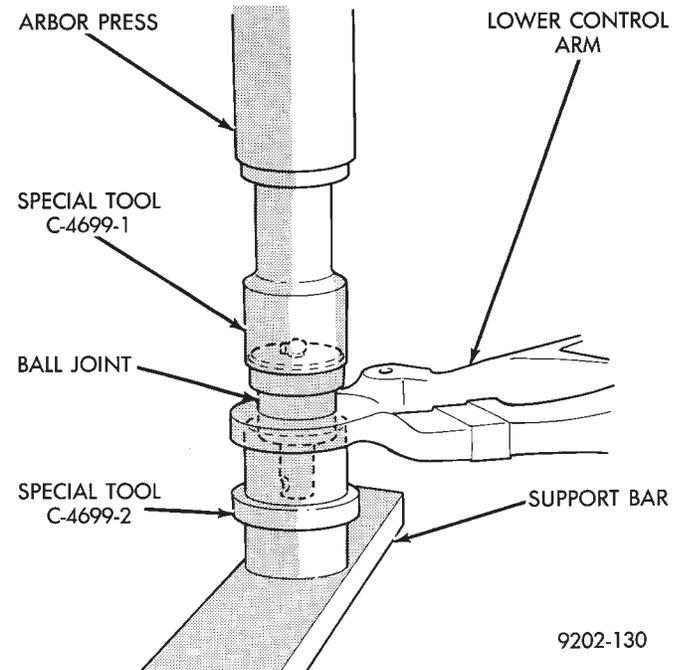

Fig. 3 Installing Ball Joint
- (1) By hand, position ball joint assembly into the ball joint bore of the lower control arm. Be sure the ball joint assembly is not cocked in the bore of the control arm, this will cause binding of the ball joint assembly.
- (2) Position assembly in press with Installer Tool C-4699-2 supporting control arm (Fig. 3).
- (3) Install the Remover/Installer, Special Tool C-4699-1 over the ball joint stud and down on the lower body of the ball joint assembly (Fig. 3).
- (4) Carefully align all pieces. Using an arbor press apply pressure against the ball joint assembly, until ball joint is fully seated against bottom surface of control arm. Do not apply excessive pressure against the control arm.